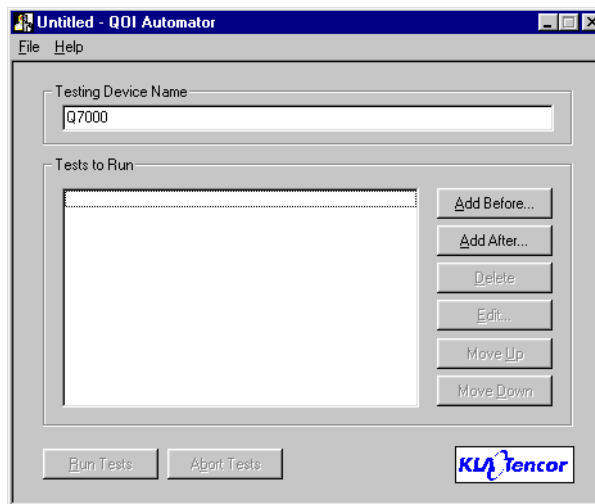

Figure 4-15: QOI Automator Window
The QOI Automator window opens (Figure 4-15). The designation “Untitled” in the Title bar indicates that this is a new file.
3. The Tests to Run list shows the selected tests in the order in which they will run. Because Figure 4-15 depicts a new file, the Tests to Run list is
| Lot ID | user-defined | Used to describe the lot of wafers. This is the name displayed in the Tests to Run list (Figure 4-15). Enter only valid alphanumeric characters. |